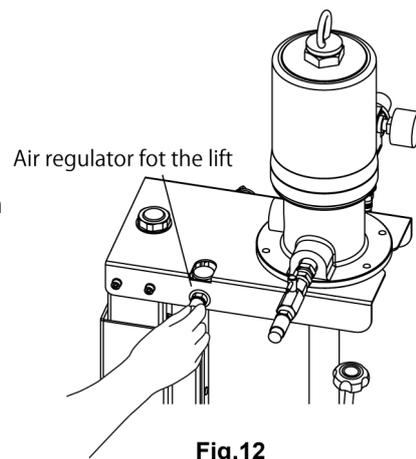

Fig.12
- 1) Adjust the air regulator for the lift to set the pointer of the pressure gauge so that it can indicate a value from 0.4MPa to 0.5MPa with following the description of "NOTE" below. (Fig.12)